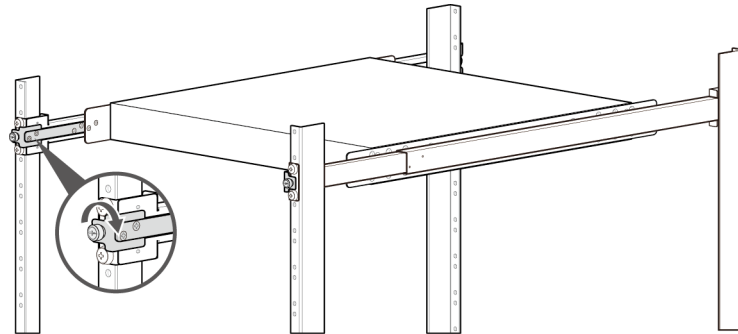

Figure 20. Attach Inner Rails to Outer Rails
- Slide the switch back in the desired position in the rack and screw in the fastening screws on the adjustment brackets through the threaded holes on the outer rails. See Figure 20.